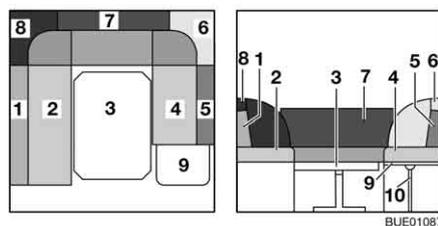

Fig. 96 During conversion
- Place support (Fig. 96,10) into the holder on the bedding box extension.
- Remove the back cushions (Fig. 96,1, 5, 6, 7 and 8) and lay them aside.